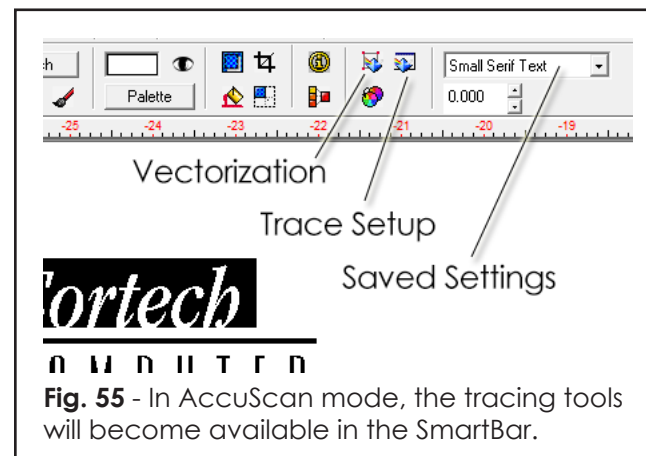

Fig. 55 - In AccuScan mode, the tracing tools will become available in the SmartBar.
10. In the SmartBar, the controls for **Vectorization**, **Trace Setup**, and **Saved Settings** are available (Fig. 55).